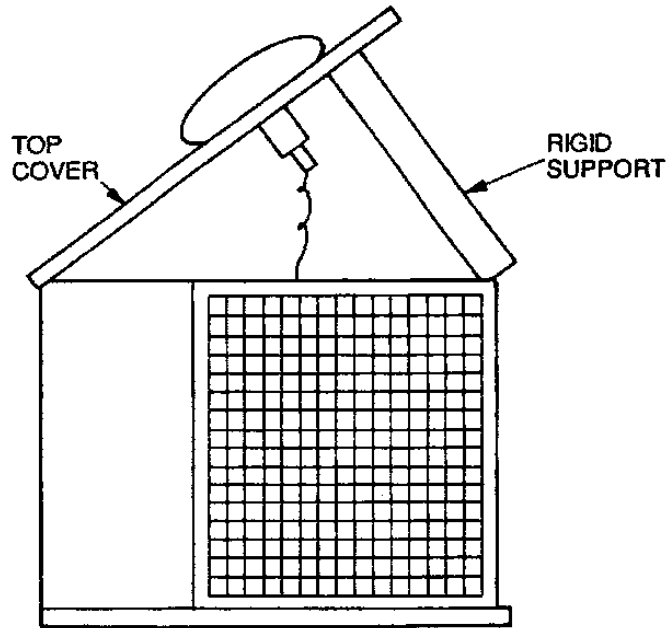

Fig. 18 - Pivot and Support Top Cover - 38AKS016 & 024
2. Remove screws holding rear corner posts and top cover in place. Pivot top cover up 12 to 18 in. (305 to 457 mm) and support with a rigid support. See Fig. 18.